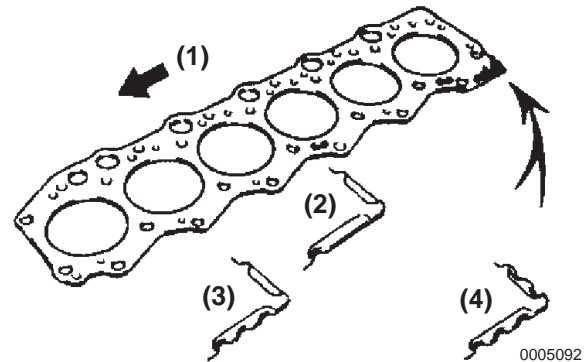

Figure 5-64
7. There are three thicknesses of service gaskets, (Mark No. 1, 3 and 5) (**Figure 5-64**).